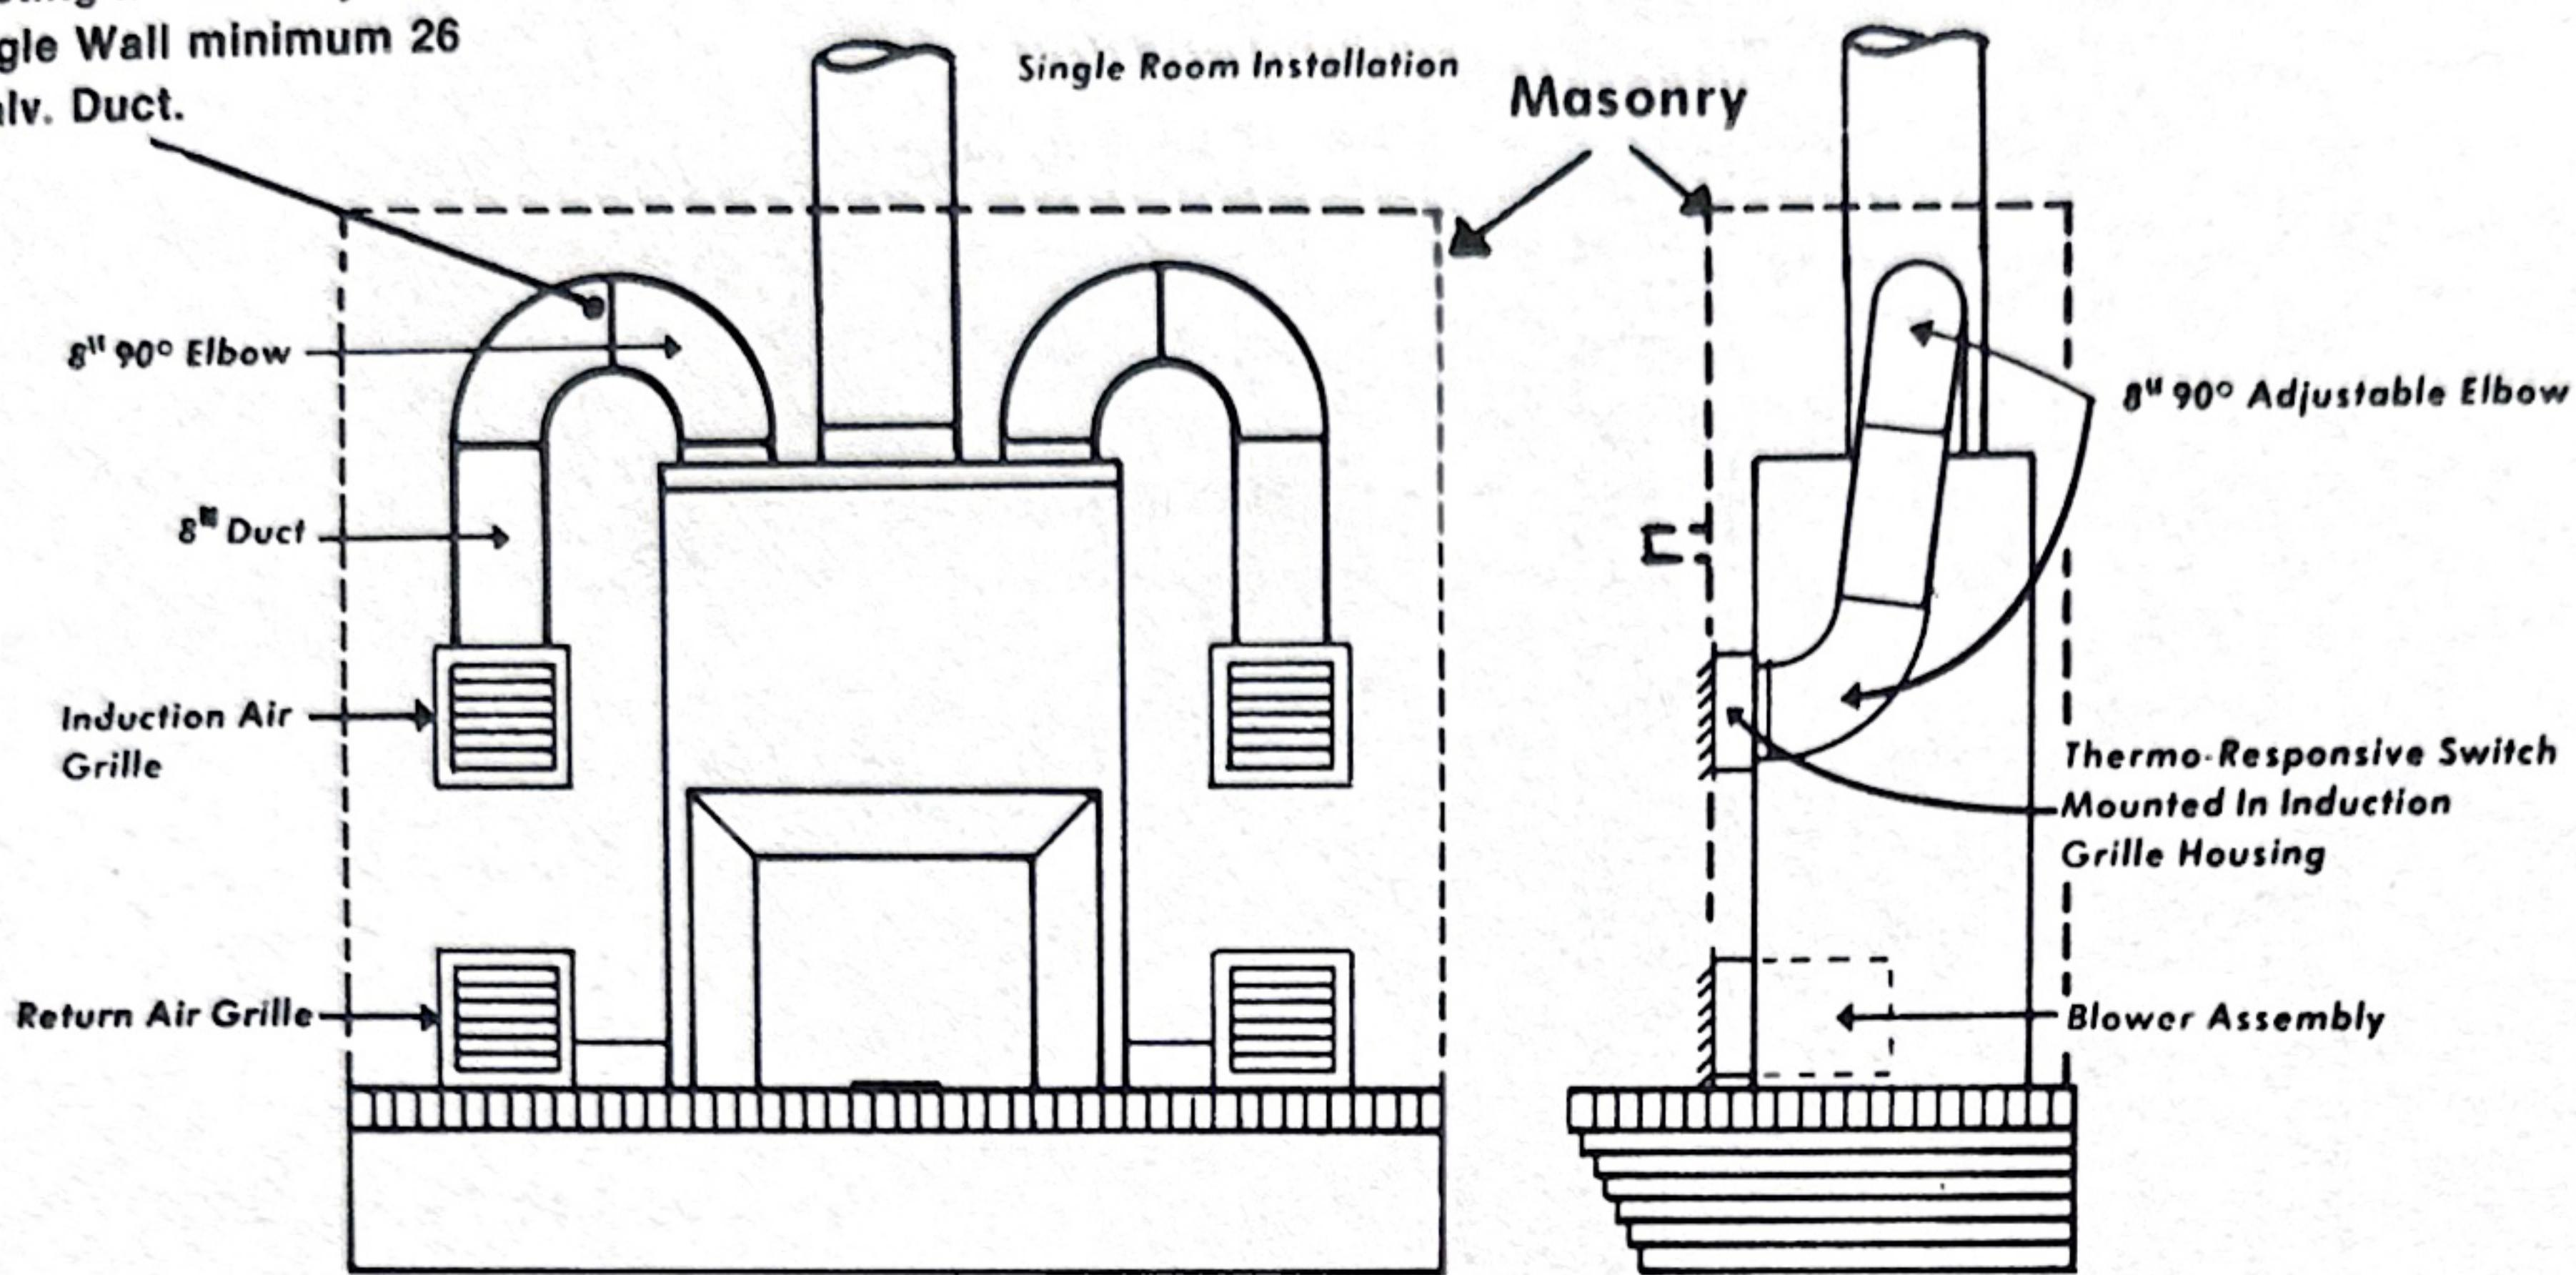

Fig. 4
3. Before commencing construction of your fireplace, it is important to plan your footing (check local Building Code), plan your duct for outside combustion air (Figs. 7,8,9), plan your duct work and positioning of return air blowers and position of the induction air grilles (Figs. 3,5,6). When planning the positioning of the return air and induction air grilles, you may position them on the front, side, or on the back side of the fireplace. In all cases grilles must be installed flush with the surface of the masonry. The grilles need to be installed in such a manner as to insure that the four (4) edges of the grilles are free from any obstruction which would prevent their easy removal from the housing to which they are attached. Grilles must be left attached to the housing when installed in the masonry to prevent misalignment. Placement of lintels required to bear weight of masonry are shown in Fig. 3. Lintels are available from the manufacturer in three (3) sizes, 42", 48" and 54". When you install a 36" Queen Air you will need three (3) 48" lintels to support flue liners and fill, and one (1) 42" lintel over the fireplace opening. When installing a 42" Queen Air you will need three (3) 54" lintels to support flue liners and fill, and one (1) 48" lintel over the fireplace opening. You must use the "wye" specified in Fig. 2, except in that instance where no duct extends beyond the masonry. In this case refer to Fig. 4. Any ducting system in the home to which the Queen Air ducting would be coupled must be Class 1 or Class 2 duct suitable for use with air temperatures not to exceed 250°F. This duct must maintain 1" clearance from combustible materials and maintain a free open area (outlet register area) of a minimum of 78 sq. in. for each of the two ducts from the Queen Air.
hot air is expelled through grilles on the fireplace only, install the thermo-responsive switch as shown in Figs. 4,6, and 12. In this case, use 200°C/392°F wire. This thermo-responsive switch must be wired in series with the blower motors. This properly accomplished, the blowers will not run until the unit gets hot. Once the unit warms up and closes the thermo-responsive switch, the blowers will continue to burn unless de-energized by the thermostat, or until the unit cools off. The variable speed control provided has an off position. A thermostat is furnished (see wiring diagram for installation of thermostat Fig. 11). The recirculating blowers on high speed are rated at 500 CFM each. It is important to note that there is a "LEFT" and "RIGHT" hand blower.